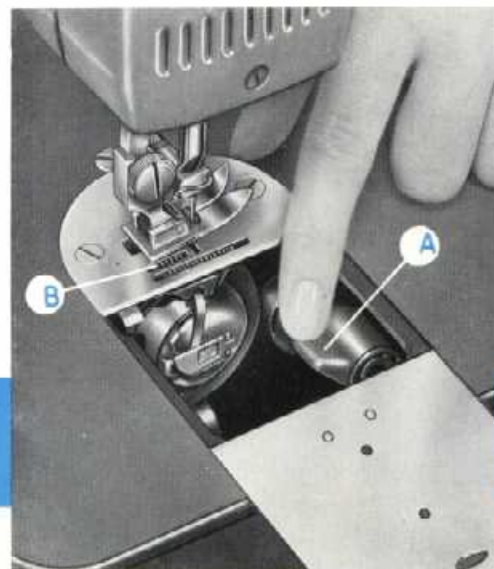

Fig. 8
- Pull out slide plate as far as possible (Fig. 8).